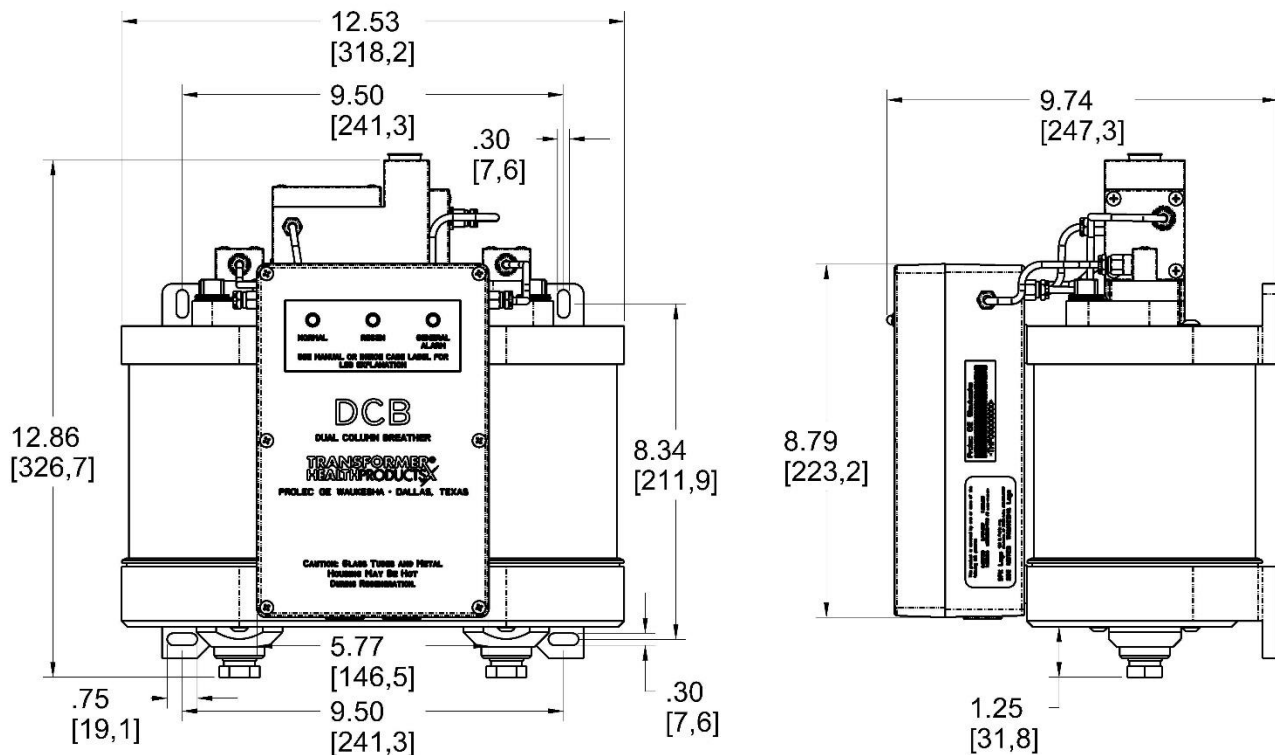

Figure 2 – DCB Mounting Dimensions, Inches [mm]
1. Measure and mark mounting holes or studs as shown by the center-to-center distances in Figure 2 above.